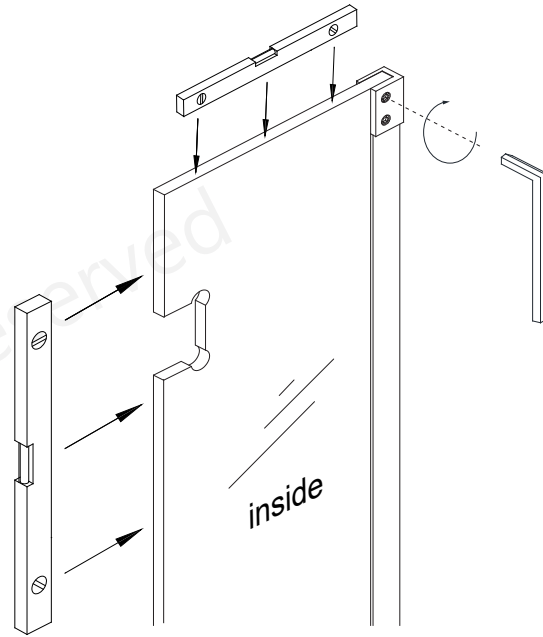

Fig 9
9. Tighten the rubber-tipped set screws on the **Hinge Panel Glass Bracket (#36)** to secure the hinge panel glass. **(Fig 9)**
NOTE: Following the installation of the Hinge Panel Glass (#32), it is required to allow the silicone to fully cure before hanging the door glass. **(Fig 9)**